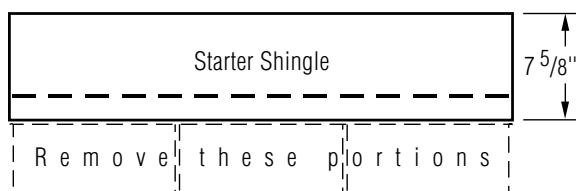

Figure 14-6: Make starter shingles that are 7⁵/₈" in height.
1. Use CertainTeed Swiftstart® Starter, or three-tab self-sealing shingles with the lower tab portions removed. Be sure that the starter shingles are **at least 7⁵/₈" in height**. (Figure 14-6).